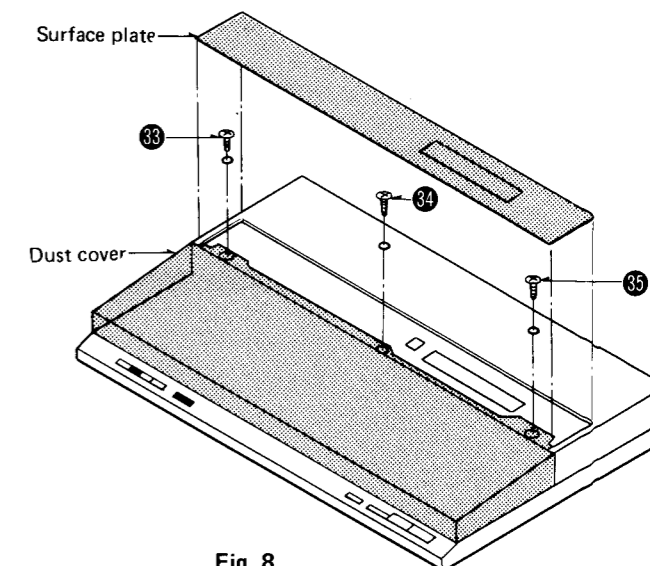

Fig. 8
3. Remove the dust cover setscrews ㉜ ~ ㉝. (Fig. 8)